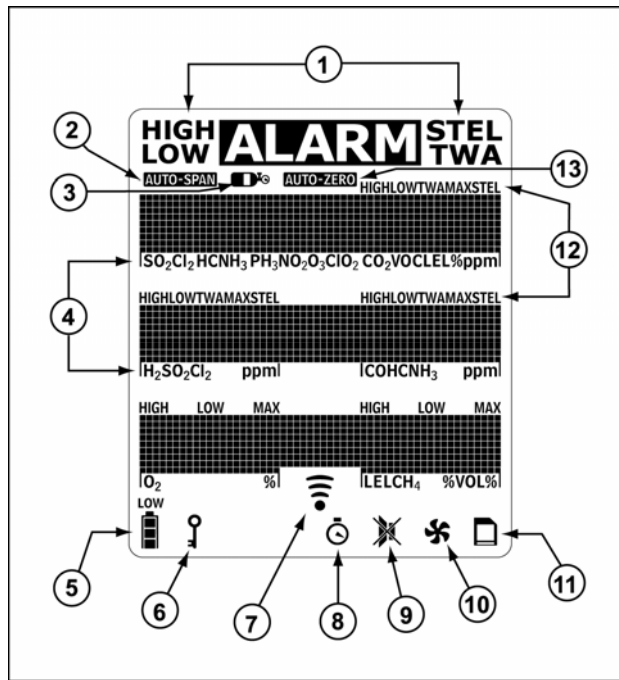

Figure 2. Display Elements
- Figure 2 and Table 4 describes the detector Liquid Crystal Display (LCD) elements